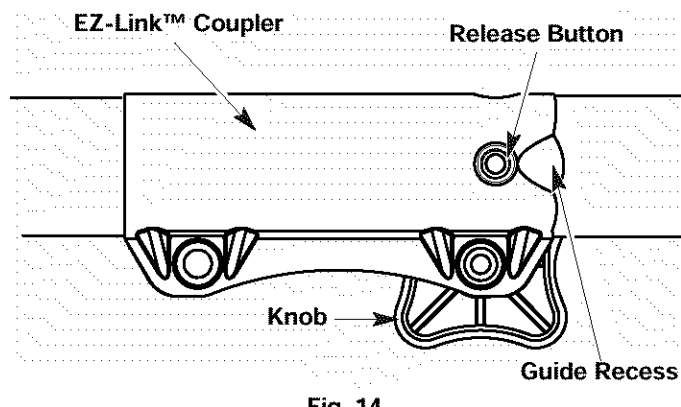

Fig. 14
1. Turn the knob counterclockwise to loosen (Fig. 14).
2. Press and hold the release button (Fig. 14).
1. Turn knob counterclockwise to loosen (Fig. 14).
**NOTE:** Aligning the release button with the guide recess will help installation (Fig. 14).